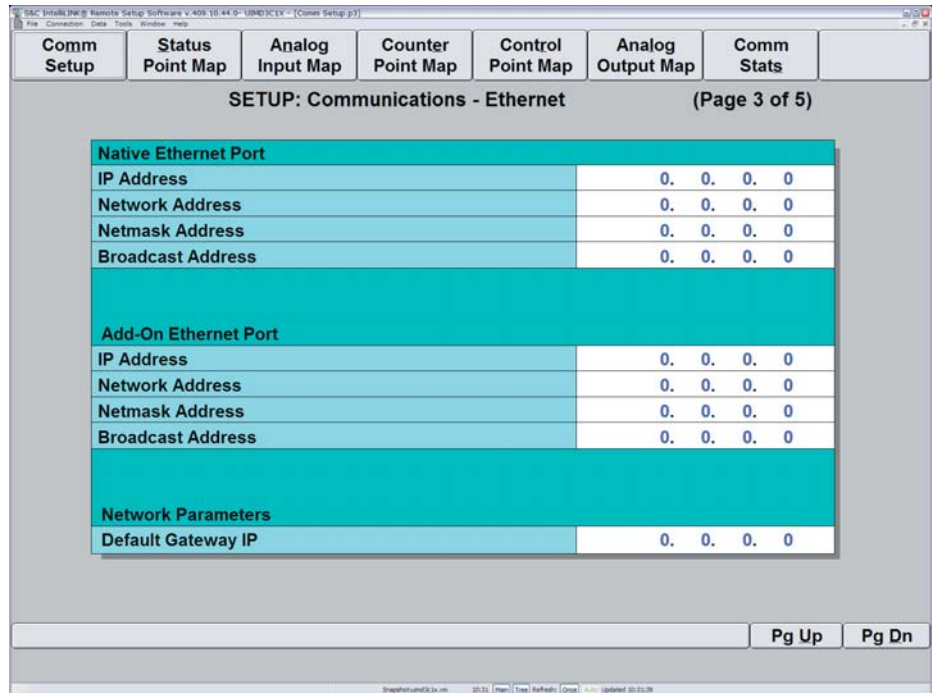

Figure 12. **SETUP: Communications - Ethernet, Page 3.**
- From **SETUP: Communications - Serial Ports** click the **PgDn** Button to go to Page 3 of 5 (Figure 12). Enter the correct values for the Interface Module.